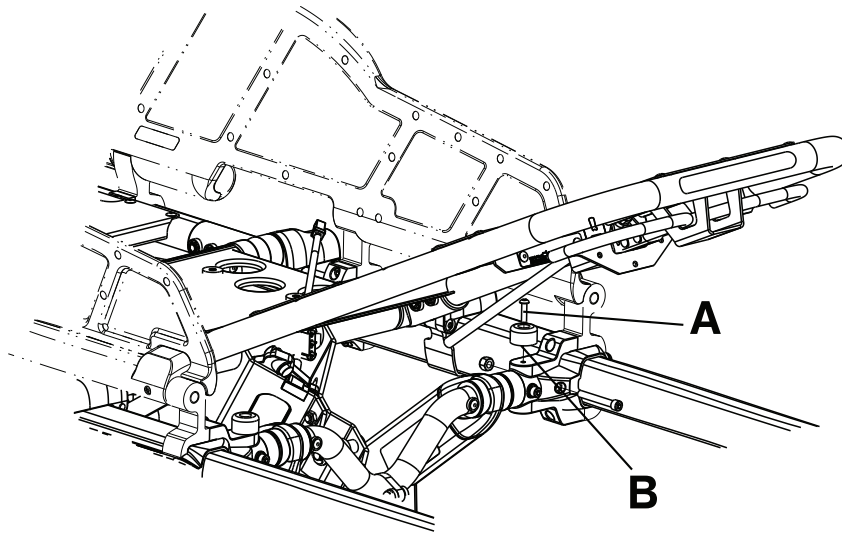

Figure 15 – Siderail assembly replacement (XPS)
3. Using a T25 Torx driver, remove the button head cap screw (A) and black bumper (B) on the side where you are replacing the siderail (Figure 15). Save the screw and bumper.